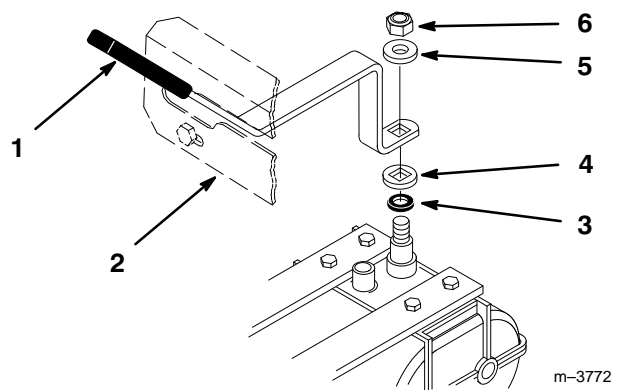

Figure 9
2. Slide shift lever through control panel and align mounting hole in lever with square on transmission shaft. Secure lever to transmission with previously removed spring washer and locknut (Fig. 9).